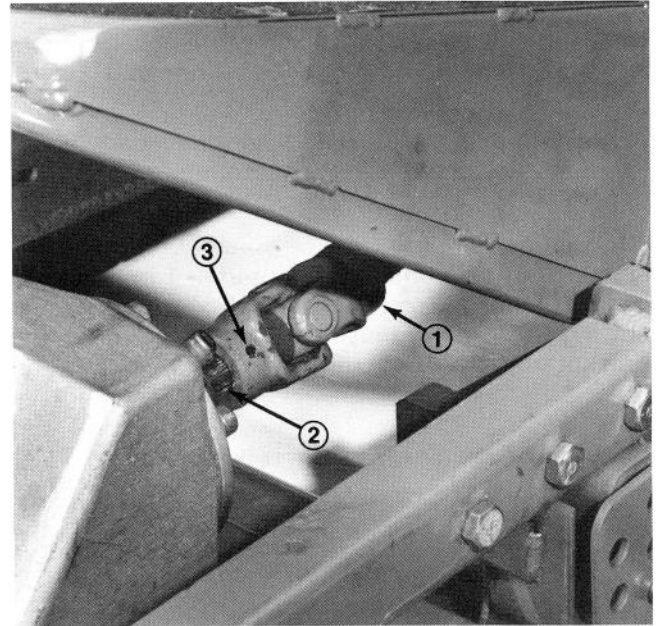

Figure 7
3. Lower frame, align PTO shaft hole with gearcase input shaft hole and install roll pin (Fig. 7).